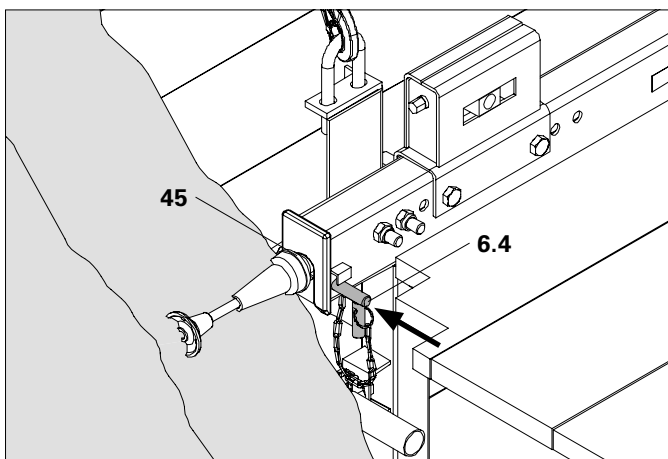

Fig. B1.22
2. Insert securing bolts (6.4) into the opening under the Scaffold Mounting Ring (45) and secure by turning to a vertical position. (Fig. B1.22)